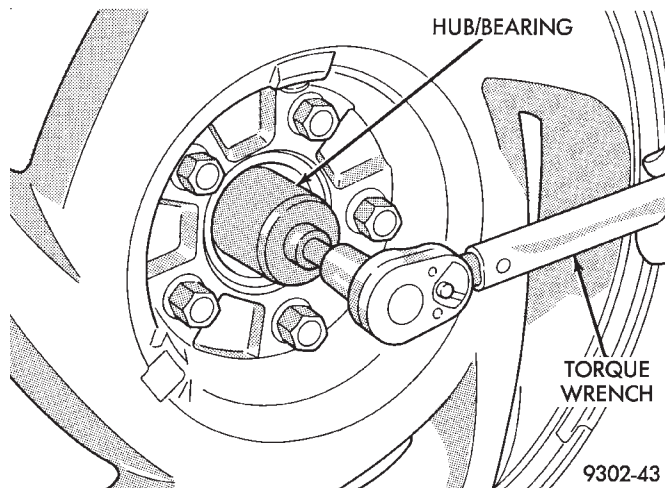

Fig. 18 Tighten Hub And Bearing Retaining Nut
(14) With the vehicle brakes applied to keep vehicle from moving. Torque the **NEW** stub shaft to hub and bearing assembly retaining nut to **163 N•m + 14 (120 ft. lbs. + 10)** (Fig. 18).